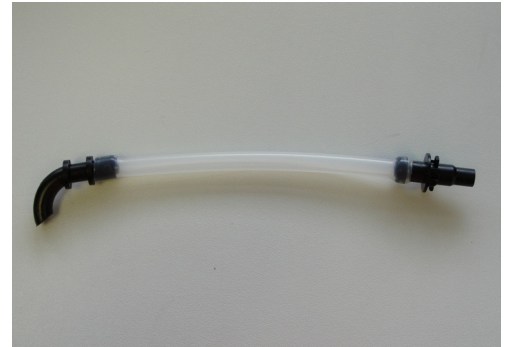

Fig. 1
- 3) Fit the dispense nozzle to one end the 15cm hose, attach the through panel connector to the other end as shown in fig. 1